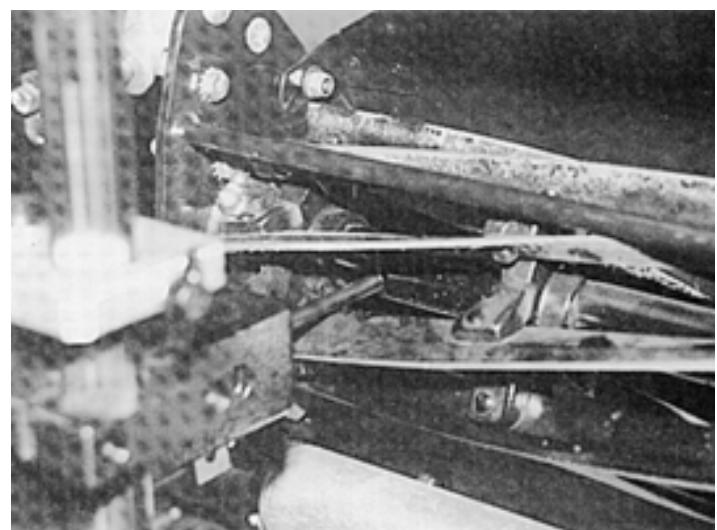

Fig. 17
- F. Move the alignment gage to the left side of the reel carefully retracting the indicator rod so as not to damage or change setting. Set indicator rod on the same position of the reel as on the other side, that is 1" from the end and centered on the shaft. (See Fig. 17) Now read the dial indicator to determine the distance the reel is out of postion. (See paragraph "F" for example - STEP 2.)